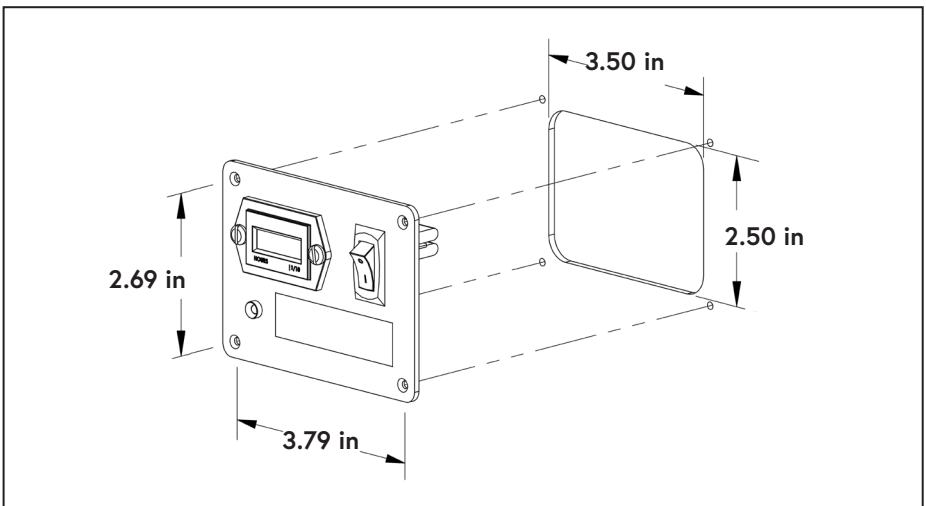

Figure 43 — Interface Panel mounting dimensions
- Install the Interface Panel in a suitable location (Figure 43).